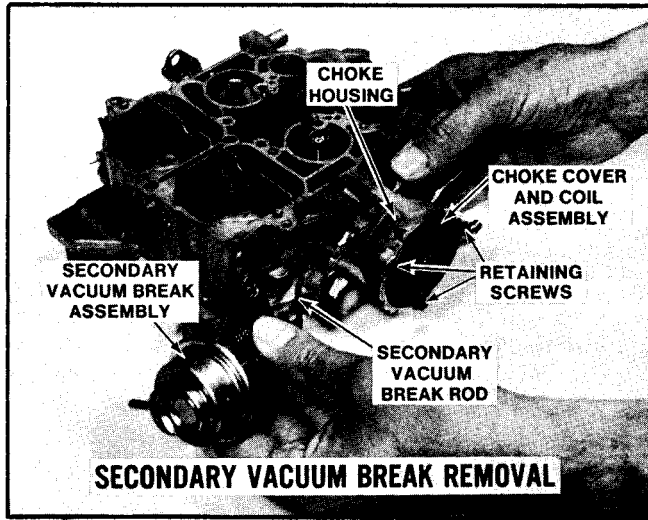

Figure 56 Secondary Vacuum Break Removal
c) Late models have integral vacuum break diaphragm-bracket assemblies. Remove attaching screws holding units to float bowl. The secondary vacuum break assembly has a rod connecting the plunger to the intermediate choke shaft lever. This can also be removed by rotating the vacuum break diaphragm assembly by sliding the rod out of the plunger stem and the other end out of the vacuum break lever (See Figure 56).